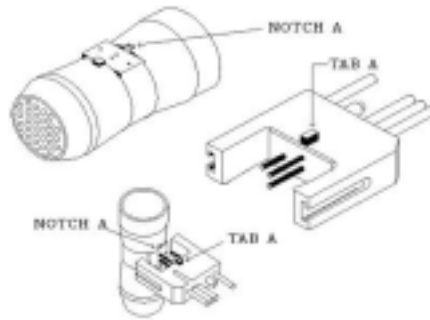

Figure 2. The MedGraphics Pneumotach.
12. The test subject should prepare the pneumotach (Figure 2) for testing.